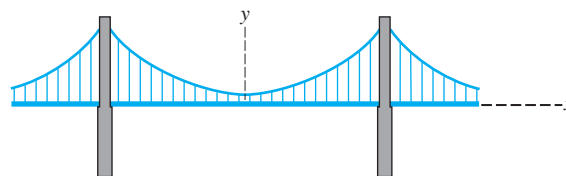

Fig. 22.31
59. The vertical distance y of the cable of a suspension bridge above the surface of the bridge is measured at a horizontal distance x along the bridge from its centre. See Fig. 22.31. The results are as follows: